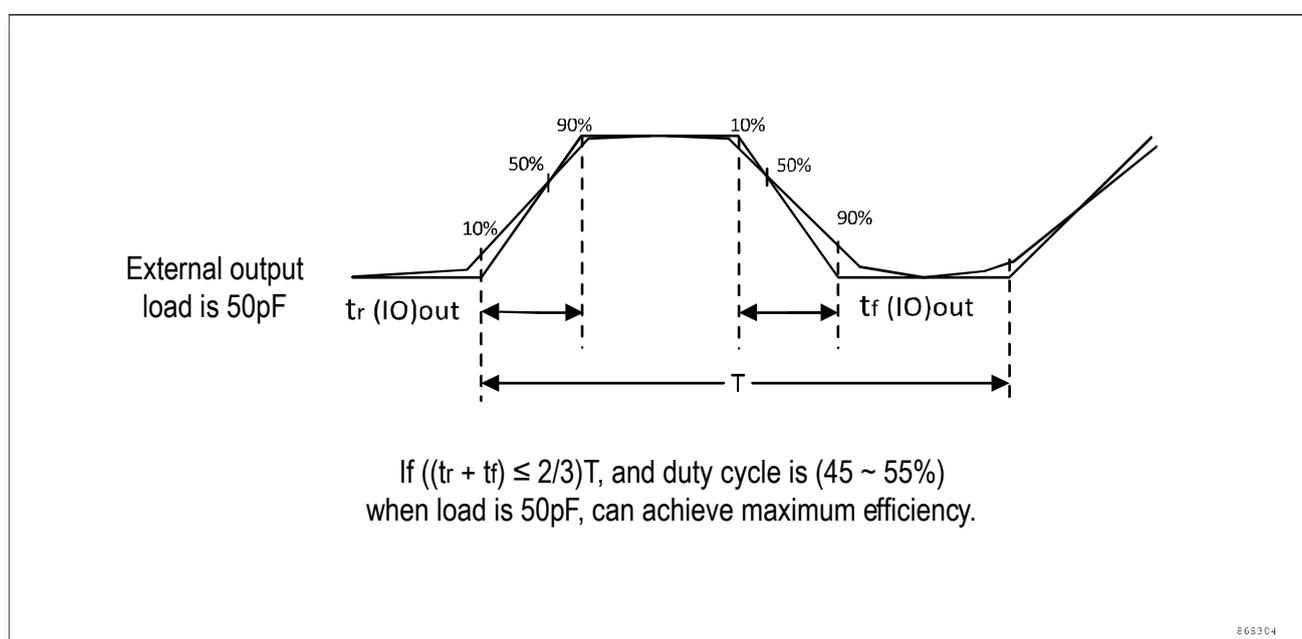

Figure 5-13 I/O AC characteristics
2. The maximum frequency is defined in Figure 5-13.